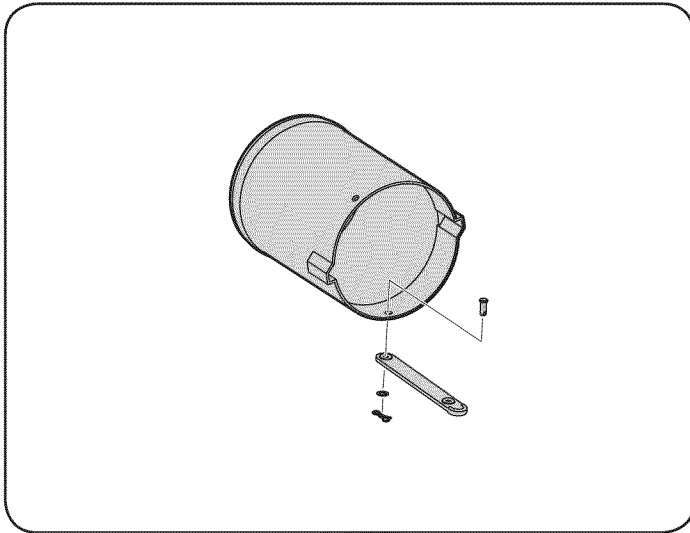

Figure 23
13. Install rubber strap (723-04008A) onto the chute tube extension using clevis pin (711-05063), flat washer (736-0204) and bow-tie cotter pin (710-04040) from hardware pack 689-00092B. Attach the end with the hole closest to the end of the strap, as seen in Fig. 23. This will make it easier to grab onto the strap to pull, stretch and hook onto the grass-catcher pin installed on the chute elbow in the previous step.